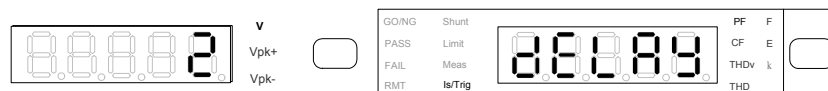

Figure 4-35 Setting DELAY and Time Length
4. In the special measurement display a blinking pattern will appear. Use \uparrow , \downarrow to select delay and press **Enter/Trig** to save the setting and go to Delay time (ms) selection display as Figure 4-35 shows.